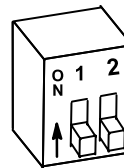

**FIGURE 6**
- 2- Locate green heartbeat LED on MCC board. See figure 6. LED should flash slowly to indicate normal operation. Refer to table 1 if the heartbeat LED is not flashing normally.